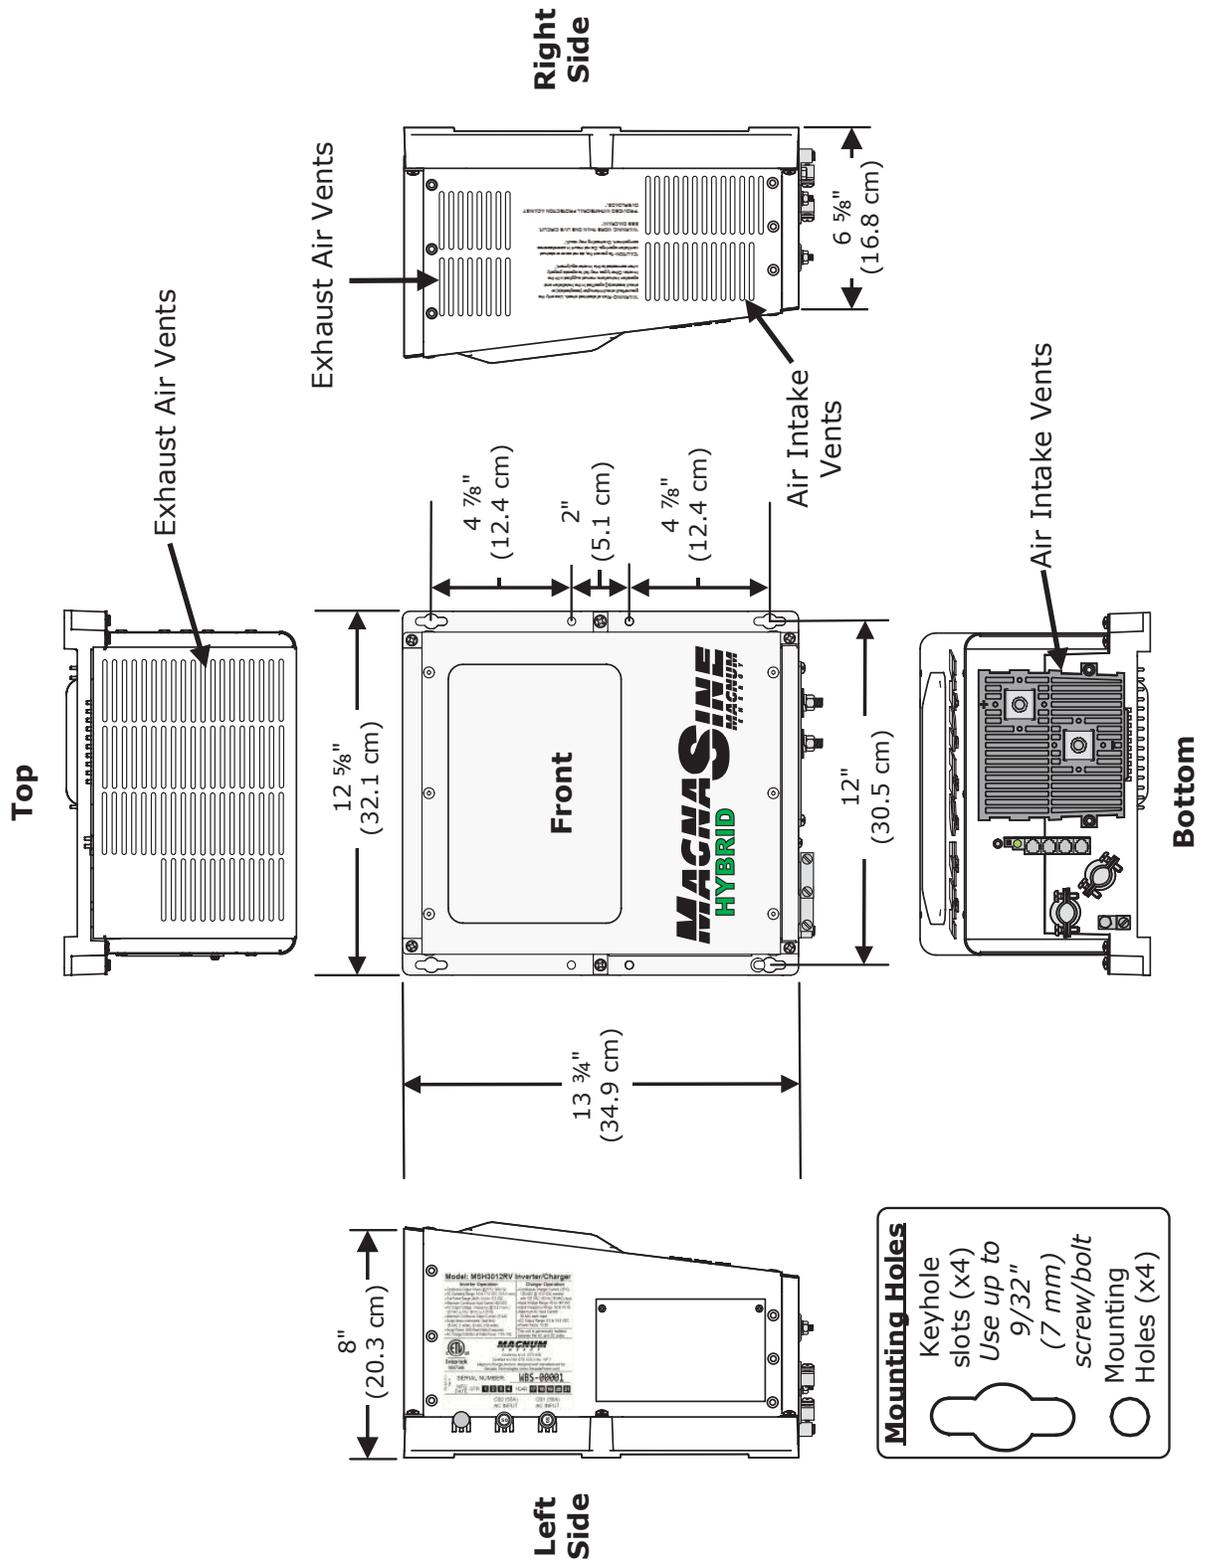

Figure 2-3, MSH3012RV Dimensions and Side References
- 14 **Exhaust Air Vents** – ventilation openings that allow heated air to be removed by the internal cooling fan. The exhaust air vents are located on the back side and at the rear on the right side; also see Figure 2-3 for the location of the air vents.
**Accessible** – Do not block access to the inverter’s remote control and accessory ports, as well as the inverter’s controls and status indicator. Allow enough room to access the AC and DC wiring terminals and connections, as they will need to be checked and tightened periodically. See Figure 2-3 for the MSH3012RV inverter/charger’s dimensions.
After determining the mounting position, refer to the physical dimensions as shown in Figure 2-3, or use the base of the inverter as a template to mark your mounting screw locations. After marking the mounting screw locations, mount the unit with appropriate mounting hardware.